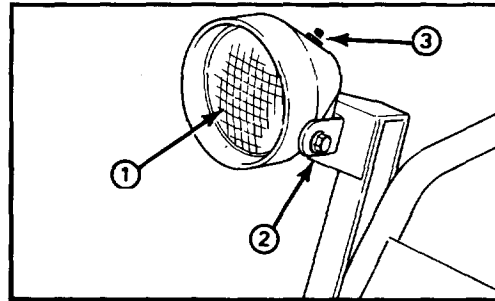

Figure 19
1. Rotate headlight to desired position. If light is difficult to move, loosen locknut (Fig. 19).
3. To turn on headlight, push button switch on top of light (Fig. 19).